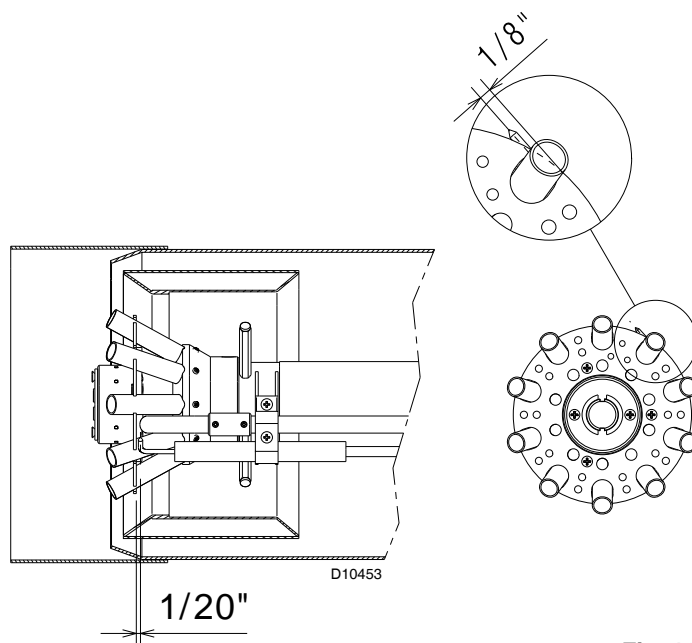

Fig. 12
To verify the correct position of the ignition electrode (Fig. 12), you need to separate the combustion head from the rest of the burner.
- check the correct position of ignition electrode, as shown in Fig. 12.